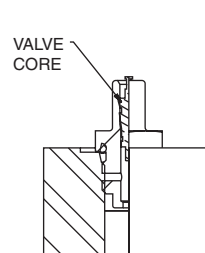
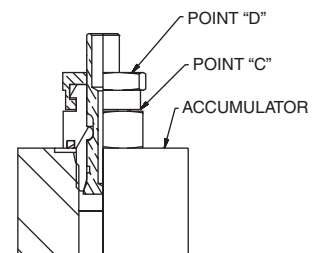

FIGURE 5
FIGURE 6
Make sure nitrogen supply is shut off. Attach hose to nitrogen bottle. If accumulator has a gas valve as shown in Figure 5 follow steps A through L and skip steps F and J. If accumulator has a gas valve as shown in Figure 6, follow steps A through L and skip steps E and I.
Accumulator having gas valve as per Figure 5.
- (A) Remove gas valve guard and gas valve cap.
- (B) Back gas chuck "T" handle all the way out (counter clockwise) before attaching charging assembly to accumulator gas valve.
- (C) Close bleed valve.
- (D) Making sure not to loop or twist the hose, attach swivel nut to gas valve and tighten (10-15 in. lb.) (11.5-17 cm kg).
- (E) Turn gas chuck "T" handle until the gauge starts showing the pressure in the accumulator. Do not turn the "T" handle all the way down, as it will damage the valve core.
- (F) **For gas valves as shown in Figure 6**, hold gas valve at point "C" with one (1) wrench while un screwing hex nut at point "D" with a second wrench. This will open the poppet inside the gas valve. Note: Three (3) turns will fully open the valve.
- (G) Crack open nitrogen bottle valve and **slowly** fill accumulator. Shut off when gauge indicates desired pre-charge.
- (J) **For gas valves as shown in Figure 6**, with a wrench, tighten hex nut at point "D" to close internal poppet (5-8 ft. lbs.) (5.7-9.2 cm kg).
- (K) Hold gas valve to keep from turning, loosen swivel nut, remove assembly. Check for precharge leak using a common leak reactant.
- (L) Replace gas valve cap (10-15 in. lbs.) (11.5-17 cm kg) and valve guard. (Gas valve cap serves as a secondary seal.)
Accumulators having gas valve as per Figure 5.
Accumulators having gas valve as per Figure 6.
For accumulators having gas valve as shown in Figure 5, attach gauging assembly as shown in Figure 2 following Steps 1 through 5. Then, open bleed valve until all gas pre-charge is relieved from accumulator. Then remove gauging assembly and gas valve.
For accumulators having gas valve as shown in Figure 6, remove gas valve guard and gas valve cap. Then hold valve at point "C" with one (1) wrench while unscrewing hex nut at point "D" with a second wrench. Wait until all gas pre-charge is relieved from the accumulator and then remove gas valve.
▲ A.S.M.E. Units, 7", 9" and 12" bore sizes, and some units rated above 3000 PSI will have valve per Figure 6 (Part No. L07689000*). Other units will have gas valve per Figure 5 (Part No. L07471000*) which will contain gas valve core Part No. 5822220000. Use tool (Part No. 5824410000) to remove and replace new core.